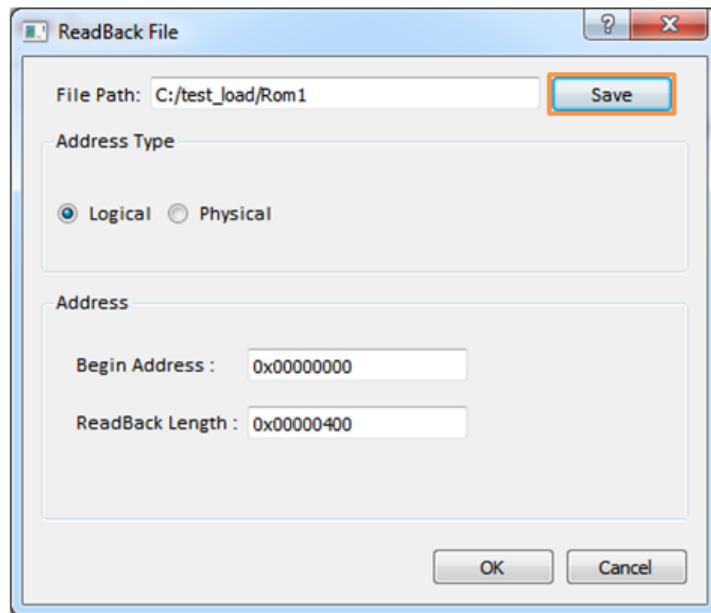

Figure 6. Opening the readback file
- 2) Click **SAVE** to provide the **File Path** of the readback file, as shown in Figure 6.
- 4) Provide **Begin Address** and **ReadBack Length** in their corresponding fields under **Address** section (see Figure 6).